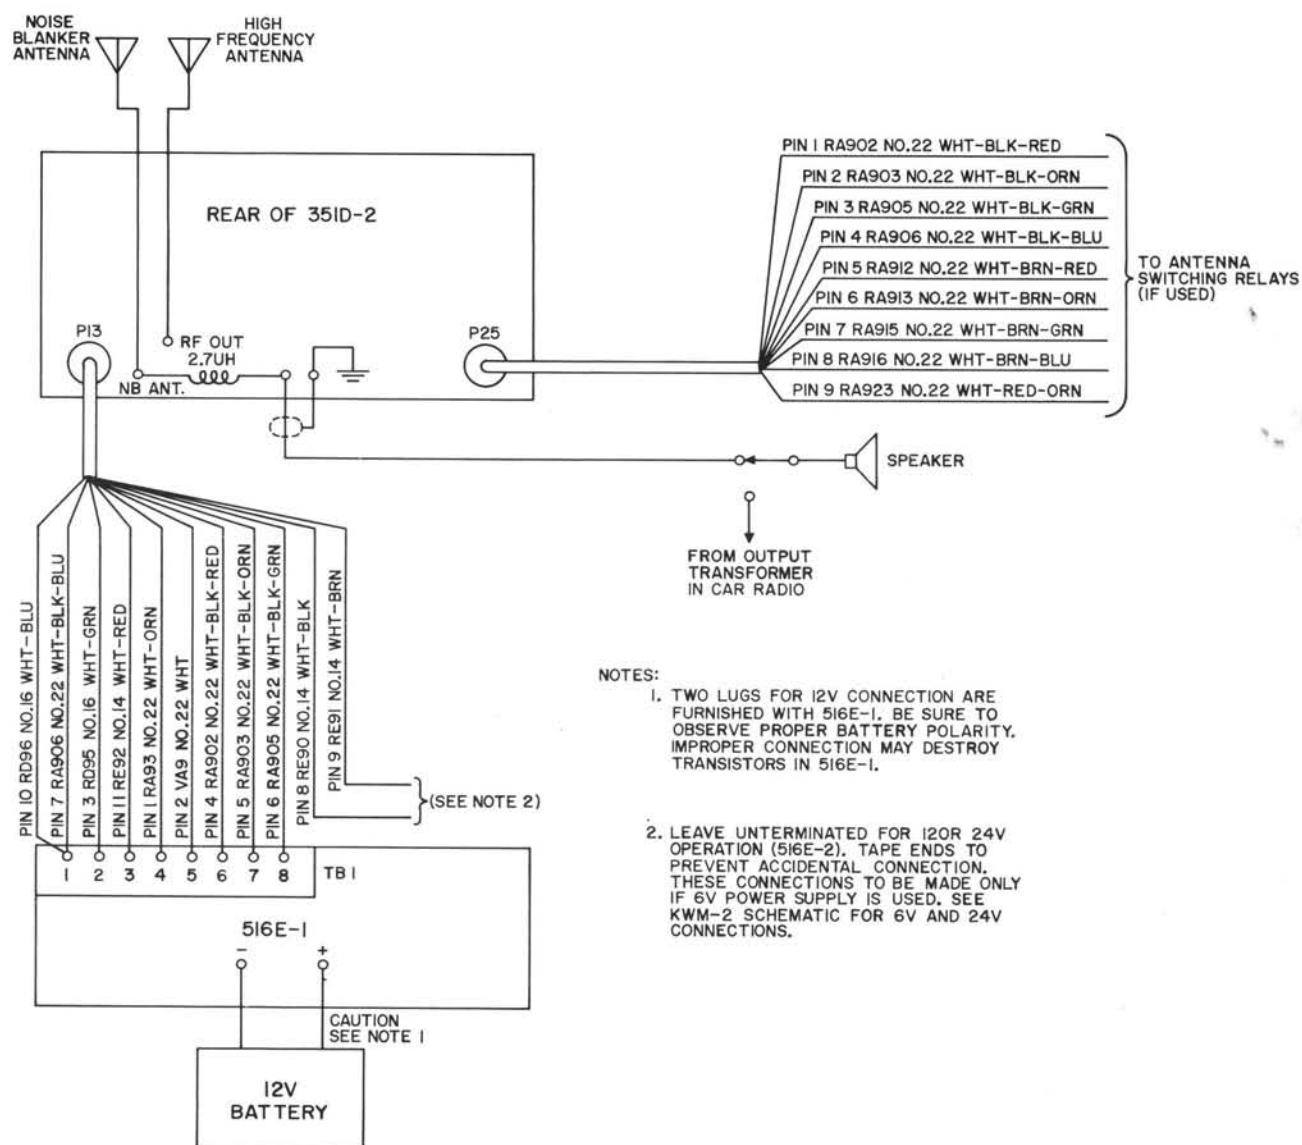

Figure 1-3. Mobile Station Interconnections
For fixed station installation, refer to figure 1-1 or 1-2. For mobile installation, refer to figure 1-3.
c. Determine necessary length of power cable (furnished with 351D-2 Mobile Mount) to connect the 516E-1 to the KWM-2, and cut to required length. Connect power supply, speaker, and microphone as shown in figure 1-3.
d. If desired, the speaker leads may be connected in parallel with the car radio speaker voice coil terminals. If the car radio has transistor output stage, connect the speaker and external switch as in figure 1-3.